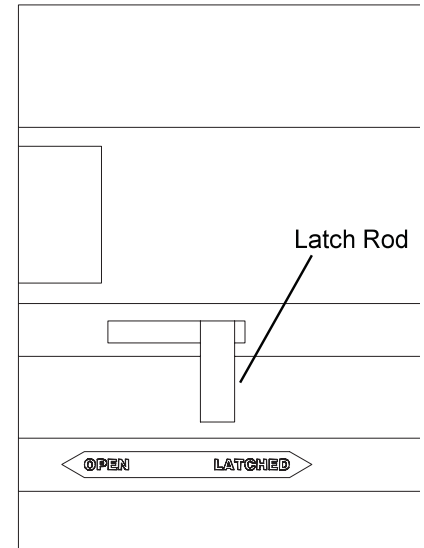
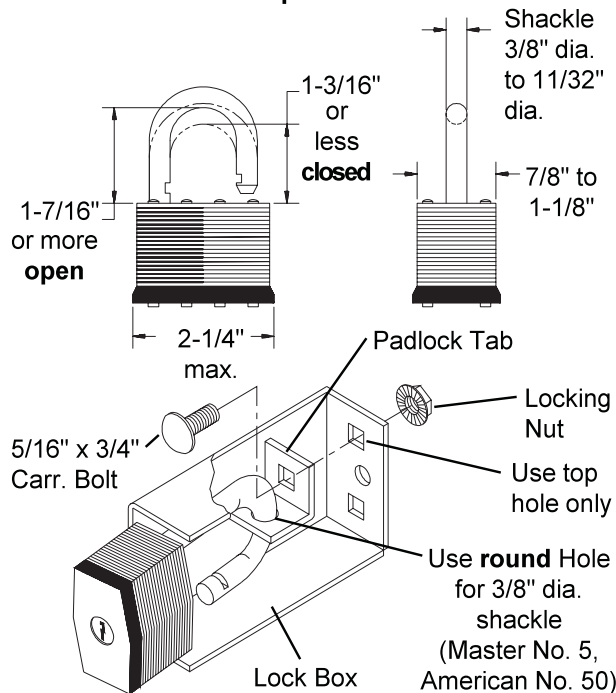

Figure 2.
Figure 3.
This lock system is designed to be used with a Master Lock® No. 1, Master Lock No. 5 or American Lock® No. 50, or equivalent sized lock. If you are using a padlock not listed above, it is your responsibility to make sure the lock mechanism is working correctly. Padlocks must meet ALL requirements listed in Figure 2 or Figure 3.
- 1 Unbolt the padlock tab using a 1/2" socket or wrench. Place the Latch Rod in "LATCHED" position as shown in Figure 1. Install 5/16" x 3/4" Carriage Bolt into correct hole in Padlock Tab, install Padlock shackle into Padlock tab then secure to Lock Box using Locking Nut. See Figure 2 or 3.